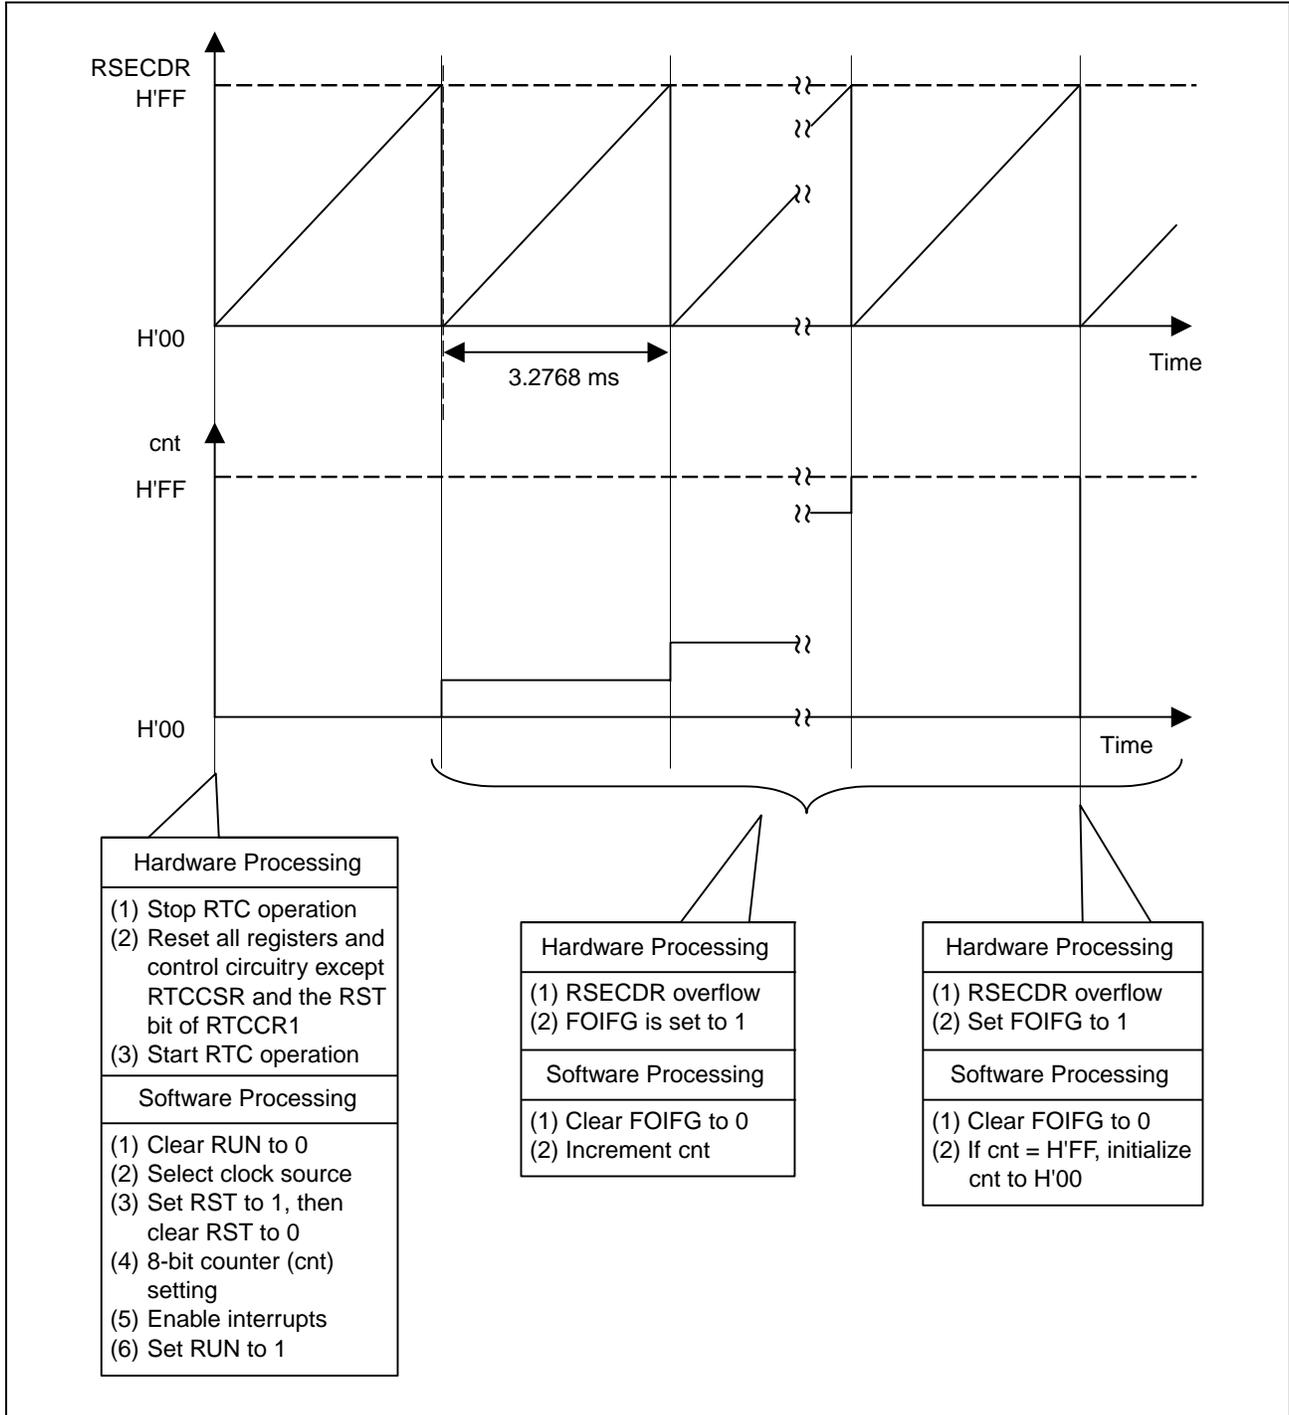

Figure 2 Principles of Operation
- The principles of operation of this sample task are illustrated in figure 2. Using the hardware and software processing shown in figure 2, 8-bit counter (cnt) is incremented using the RTC free running counter function.